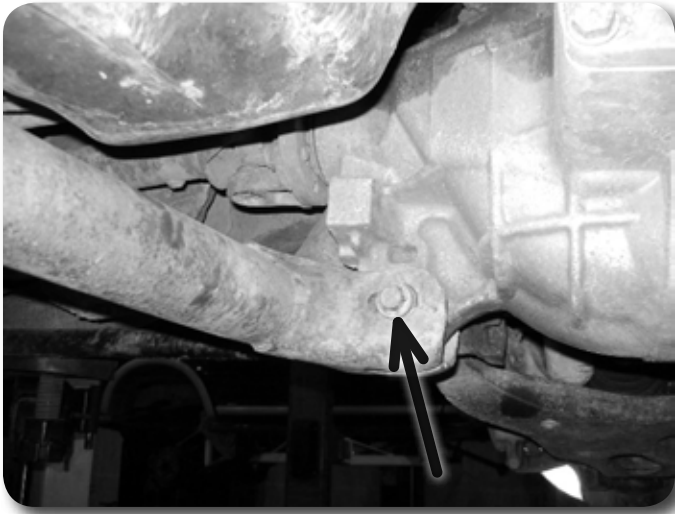

Figure 9A
25. Loose but do not remove the two driver's side Figure 9A,B and one passenger's side Figure 9C differential mounting bolts.